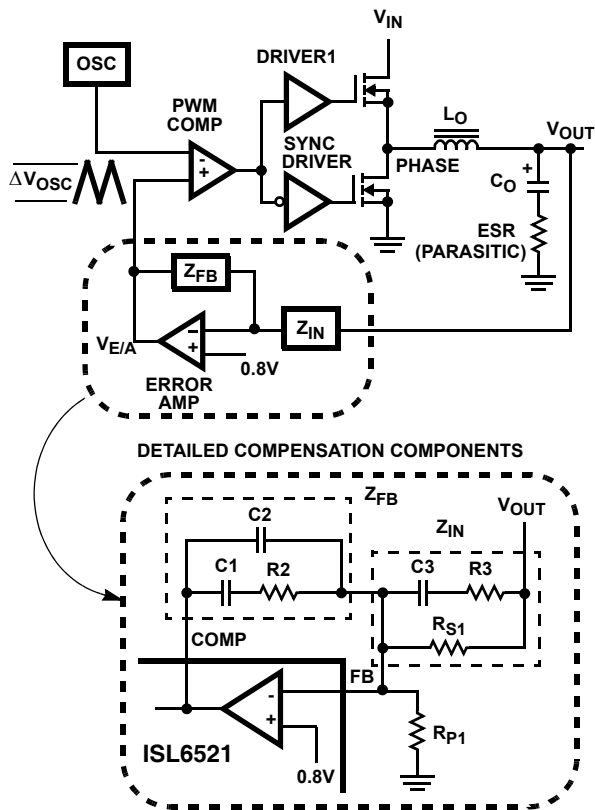
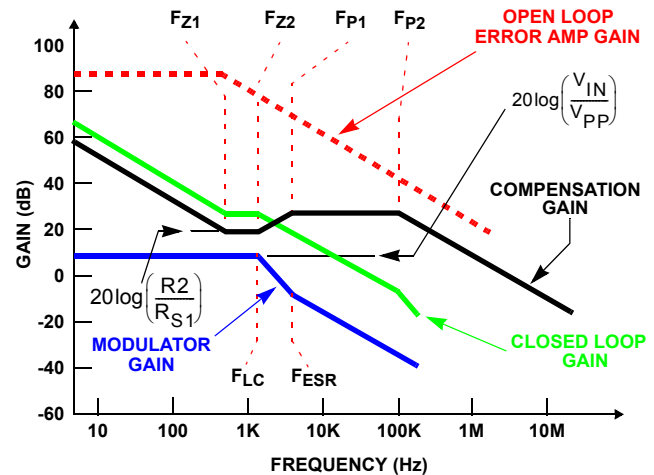

FIGURE 5. VOLTAGE-MODE BUCK CONVERTER COMPENSATION DESIGN
FIGURE 6. ASYMPTOTIC BODE PLOT OF CONVERTER GAIN
Figure 5 highlights the voltage-mode control loop for a synchronous-rectified buck converter. The output voltage ( $V_{OUT}$ ) is regulated to the reference voltage level, 0.8V. The error amplifier (Error Amp) output ( $V_{E/A}$ ) is compared with the oscillator (OSC) triangular wave to provide a pulse-width modulated (PWM) wave with an amplitude of  $V_{IN}$  at the PHASE node. The PWM wave is smoothed by the output filter ( $L_O$  and  $C_O$ ).
The compensation network consists of the error amplifier (internal to the ISL6521) and the impedance networks  $Z_{IN}$  and  $Z_{FB}$ . The goal of the compensation network is to provide a closed loop transfer function with high 0dB crossing frequency ( $f_{0dB}$ ) and adequate phase margin. Phase margin is the difference between the closed loop phase at  $f_{0dB}$  and 180 degrees. The equations below relate the compensation network's poles, zeros and gain to the components ( $R1$ ,  $R2$ ,  $R3$ ,  $C1$ ,  $C2$ , and  $C3$ ) in Figure 5. Use these guidelines for locating the poles and zeros of the compensation network:
Figure 6 shows an asymptotic plot of the DC-DC converter's gain vs. frequency. The actual Modulator Gain has a high gain peak dependent on the quality factor (Q) of the output filter, which is not shown in Figure 5. Using the above guidelines should yield a Compensation Gain similar to the curve plotted. The open loop error amplifier gain bounds the compensation gain. Check the compensation gain at  $F_{P2}$  with the capabilities of the error amplifier. The Closed Loop Gain is constructed on the log-log graph of Figure 6 by adding the Modulator Gain (in dB) to the Compensation Gain (in dB). This is equivalent to multiplying the modulator transfer function to the compensation transfer function and plotting the gain.